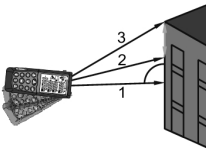

Fig. 11: Indirect 3-point measurement – Mode 2
3. Position the instrument in the lowest point (1) of measurement (see Fig. 11) and press the  key or the side **MEAS** key. The result appears on the first partial display. The symbol “” appears on the display with side “2” flashing
4. Position the instrument as horizontally as possible (2) (see Fig. 11) and press the  key or the side **MEAS** key to measure. The result appears on the second partial display. The symbol “” appears on the display with side “3” flashing
5. Position the instrument in the highest point (3) of measurement (see Fig. 11) and press the  key or the side **MEAS** key to measure. The result appears on the second partial display
6. The final value of the result obtained with the combination of previous measures (see dashed line in Fig. 11) is shown on the resulting display